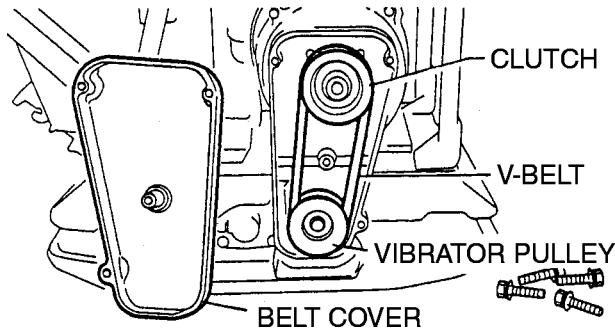

Figure 25. V-Belt Check
1. After 200 hours of operation, remove the belt cover to check the V-belt tension (Figure 25). Tension is proper if the belt bends about 10 mm when depressed strongly with finger between shafts. Loose or worn V-belts reduces power transmission efficiency, causing weak compaction and reduces the life of the belt itself.